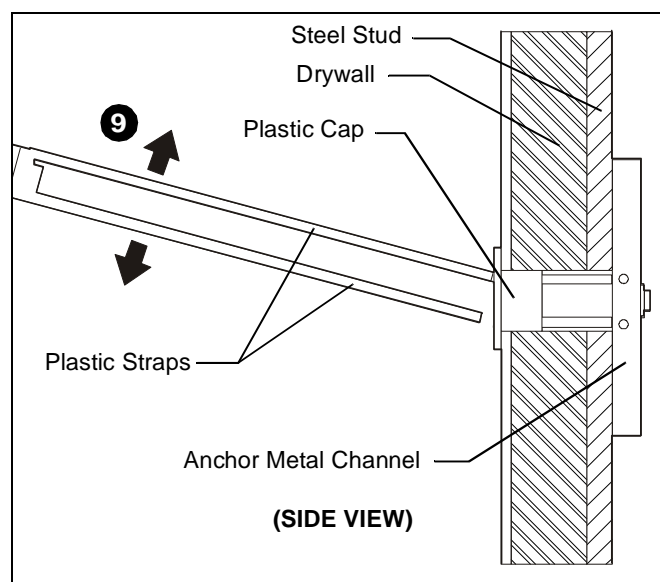

Figure 11
9. Snap off plastic straps on anchor at wall by pushing side to side, snapping off straps level with flange of plastic cap. (See Figure 11)